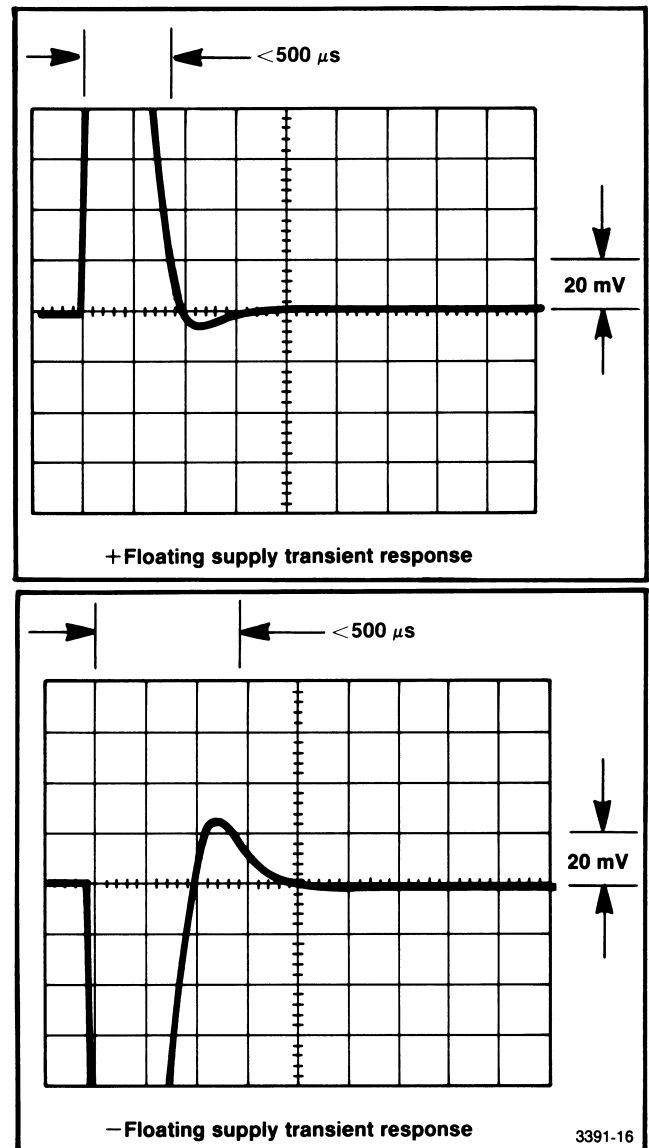

Fig. 5-3. Load transient recovery waveforms.
- g. Adjust the oscilloscope triggering so that the transient waveform during switch opening and closing is visible on the oscilloscope display. See Fig. 5-3.
- i. Repeat these steps for the NEGATIVE floating supply. All steps are identical with exception of the sign change. See Fig. 5-3.